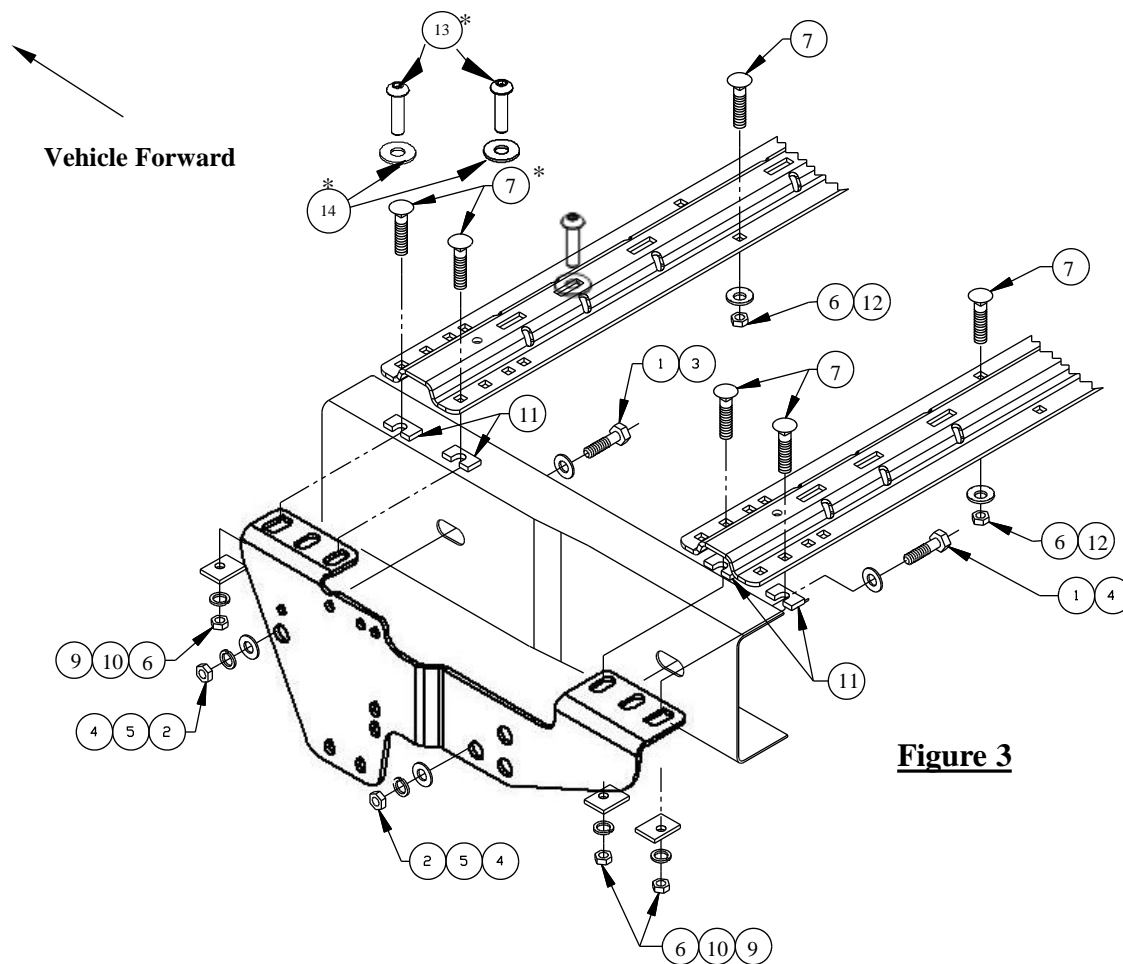

Figure 3
6. Fasten the frame brackets to the vehicle frame rails as shown in Figure 3.